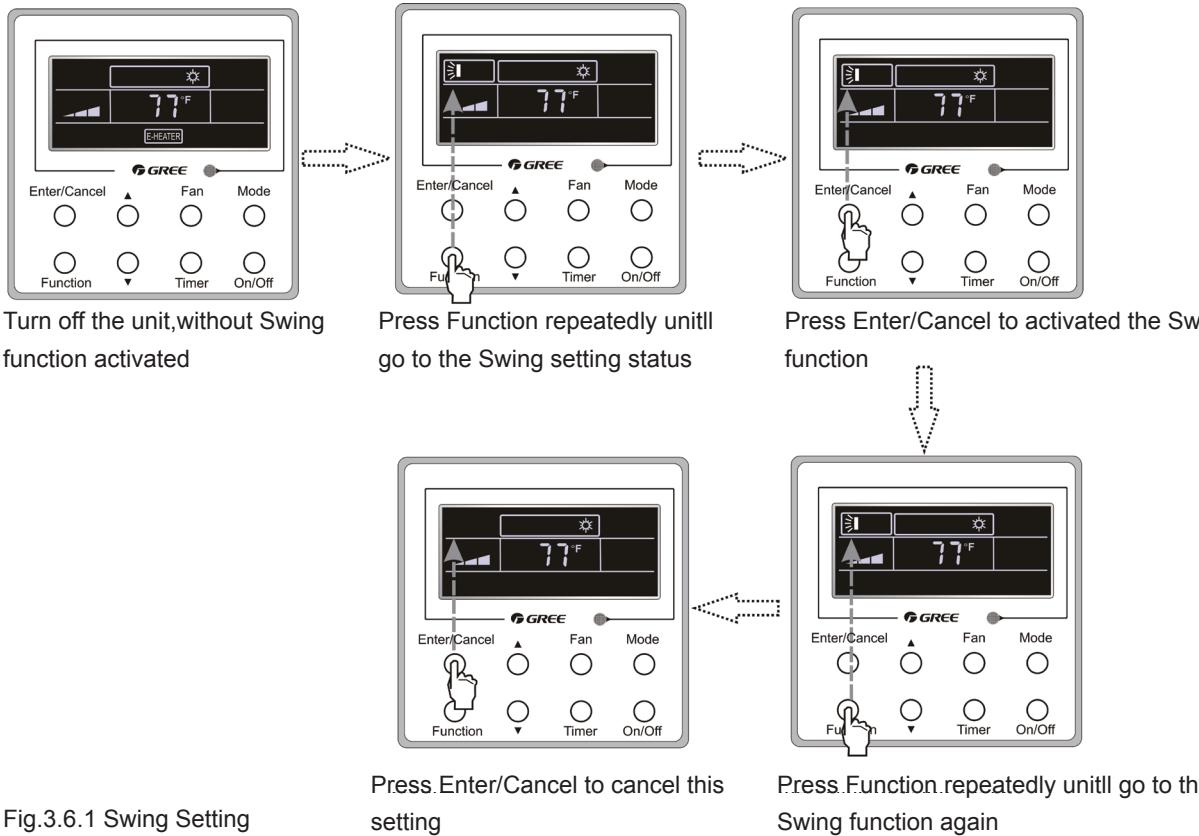

Fig.3.6.1 Swing Setting
**Swing Off:** When the Swing function is on, press Function to enter the Swing setting interface, with blinking. After that, press Enter/Cancel to cancel this function. Swing setting is shown as Fig.3.6.1.